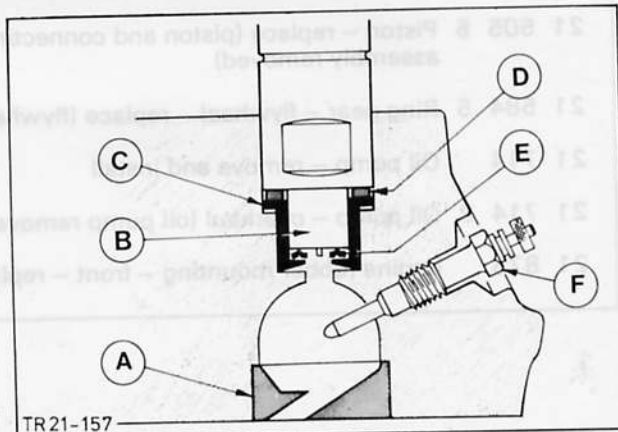

Fig. 9. Turbulence combustion chamber
7. Fit new sealing ring and new heat balancing plate with domed side facing upwards, Fig. 9 and tighten injector nozzles as specified in Technical Data.